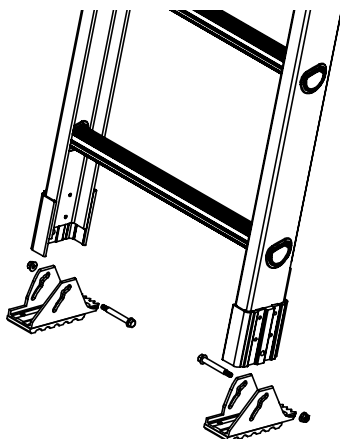

Fig. 1
5. Remove both feet from ladder. Using 7/16 inch (11mm) socket and wrench remove nut and bolt for each foot. (Fig. 1)